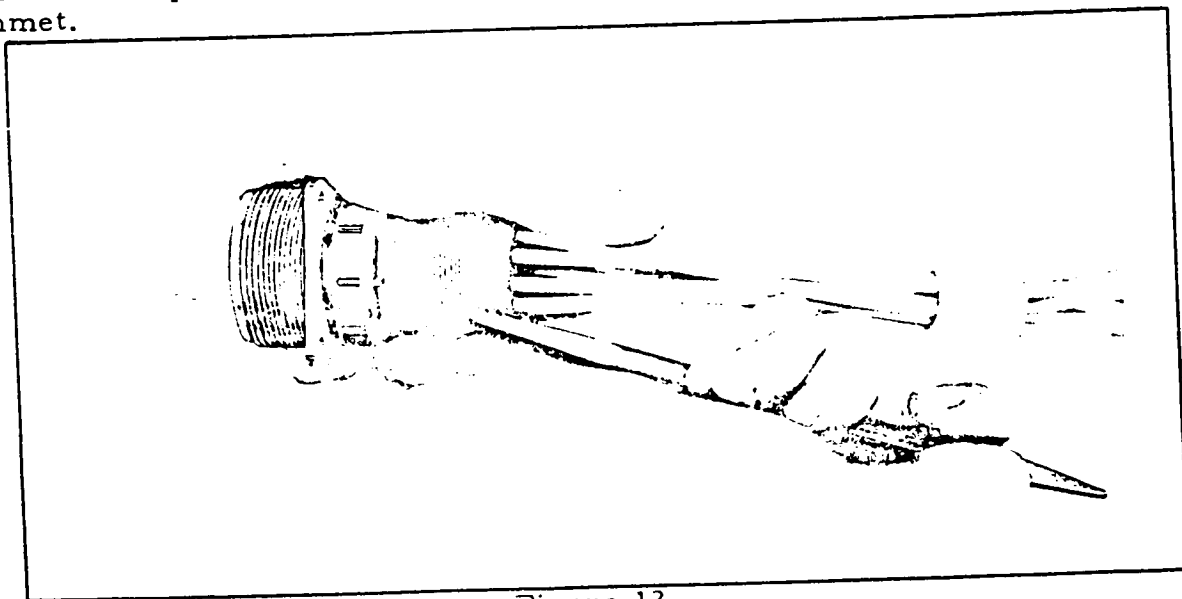

Figure 12
b. Seat the grommet into the back shell or elbow. It may be necessary to seat the grommet with the tip of a 3/8" phenolic rod, as shown in figure 12. Insert this tool between the wires at numerous points around the grommet. Keep wires taut, to prevent buckling of the wires between insert and grommet.